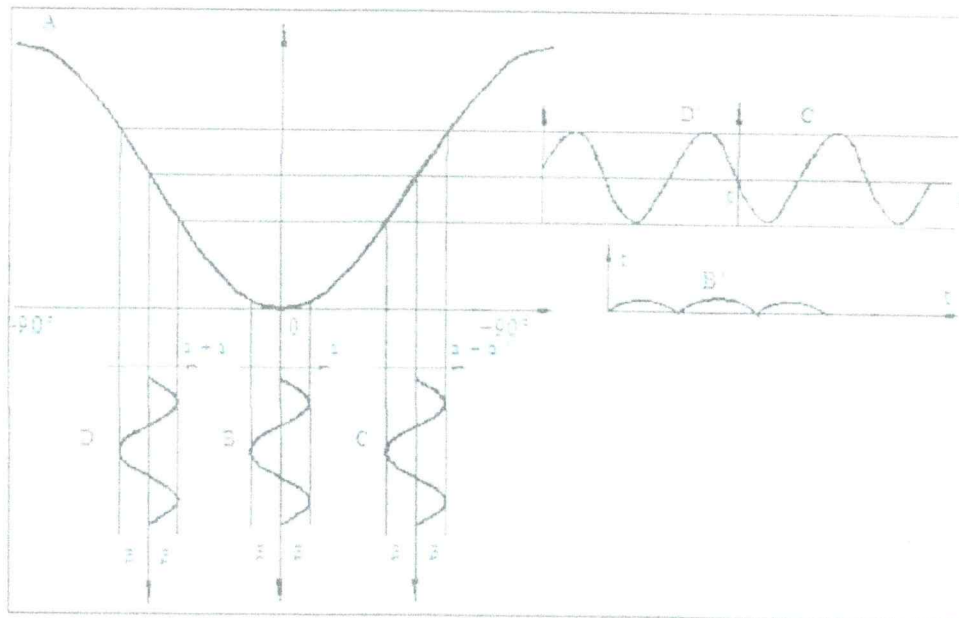

Fig. 1
It is shown by curve A in Fig. 1.
a) At the orthogonal position, it can be derived that light intensity signals of the curves B and B' in Fig. 1 is a constant light intensity supplemented with an alternating light intensity with frequency  $2f$ .
b) At an offset position in the right of the orthogonal position, it can be derived that light intensity signals of the curves C and C' in Fig. 1 is a constant light intensity supplemented with an alternating light intensity with frequency  $f$ , as shown by
c) At an offset position in the left of the orthogonal position, it can be derived that light intensity signals of the curves D and D' in Fig. 1 is a constant light intensity supplemented with an alternating light intensity with frequency  $f$ , as shown by curve D'; but the alternating light intensity phase is just opposite to that at the right offset position.